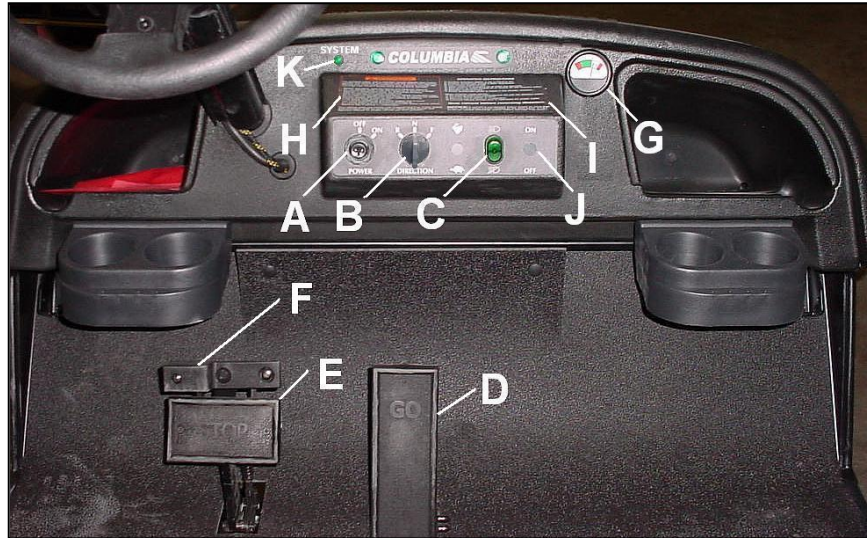
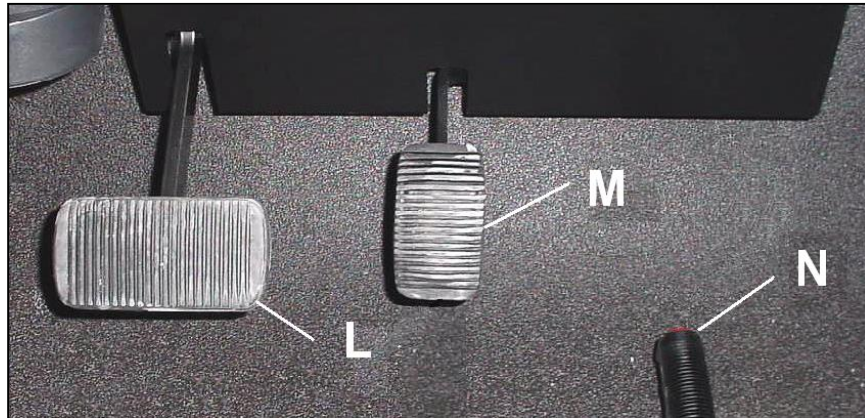

Figure 3.3.1
Figure 3.3.2
Figure 3.3.1 shows the accelerator pedal (D) for vehicles with mechanical brakes. Figure 3.3.2 shows the accelerator pedal (M) for vehicles with hydraulic brakes. They control the speed of the vehicle in the same manner as a conventional automobile. The pedal must be fully released when changing directions.
Figure 3.3.1 shows the brake pedal (E) and the parking brake (F) for Shuttle vehicles with mechanical brakes. The parking brake lock (F) is a bar located at the top of the brake pedal. To lock foot brake for parking, depress pedal and bar at the same time. Always apply parking brake when leaving the vehicle. It remains applied until automatically released by depressing the accelerator pedal. Parking brake can also be released by momentarily depressing the brake pedal, and then releasing it.
Figure 3.3.2 shows the brake pedal (L) and parking brake (N) for Shuttle vehicle with hydraulic brakes and for Tram vehicles. These vehicles will have a hand parking brake located either on the floor as shown in Figure 3.3.2 or if equipped with bucket seats, located between the seats.